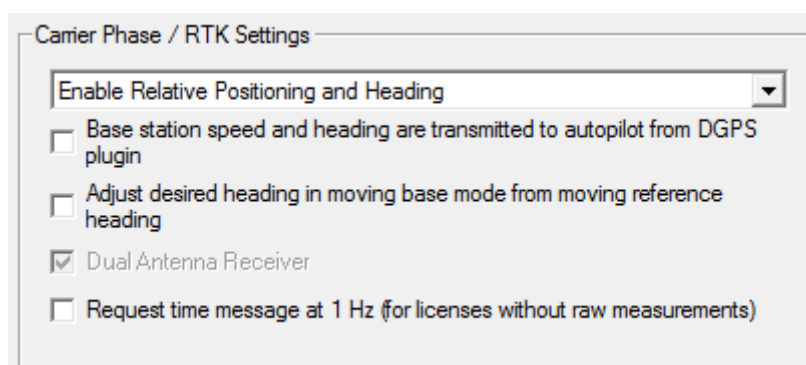

Figure 27 - NovAtel ALIGN Heading and Relative Positioning VRS Settings
2. In the Carrier Phase/RTK Settings section, select **Enable Relative Positioning and Heading** as shown in *Figure 27 - NovAtel ALIGN Heading and Relative Positioning VRS Settings*.